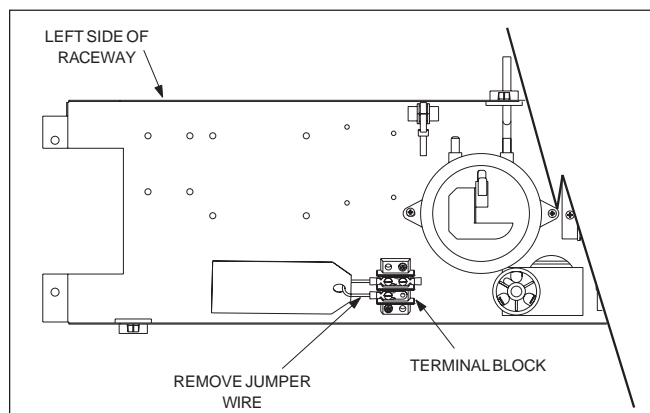

Figure 22. Remove Jumper from Terminal Block
To install a time clock auxiliary switch into the heater circuit, follow these instructions (see Figure 22):
4. Remove the factory installed jumper wire and tag from the terminal strip (see Figure 22).